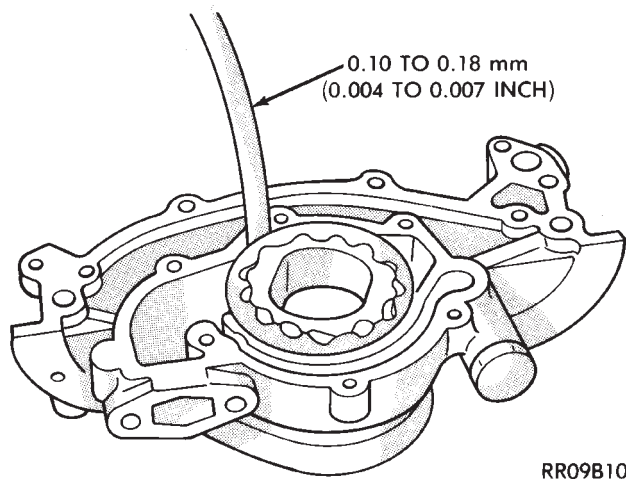

Fig. 9 Checking Clearance-Between Outer Rotor and Case
(4) Insert the rotor into the oil pump case (Figs. 9 and 10) and measure clearance with a feeler gauge as indicated.